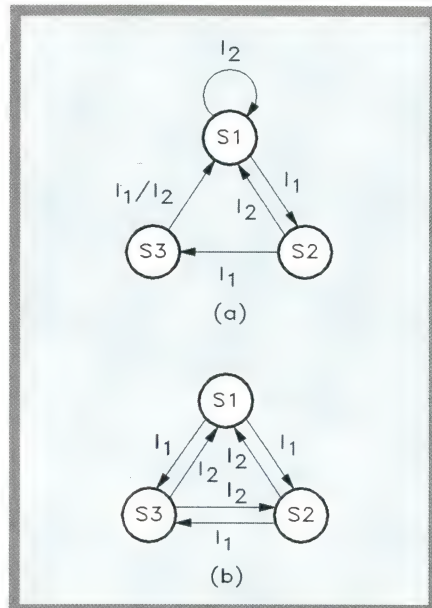

Figure 1. State diagrams for (a), a divide-by-three up counter with reset and (b), a divide-by-three up/down counter.
It is necessary at the outset to state fully the requirements for the design, so that it is clear just what it is that we are trying to achieve. Pictures speak louder than words, so they say, therefore there is some value in using diagrams as well as the written word in a specification. The type of diagram that helps us in this context is known as a 'state diagram', two simple examples being shown in Figure 1.
Figure 1 (a) shows the state diagram for a 'divide-by-three up counter with reset' while the diagram of Figure 1 (b) shows a 'divide-by-three up/down counter'. It will be noticed that this type of diagram consists of a number of circles joined by 'arrowed flow lines'. Each of the circles represents a state of the counter, a symbol for that state appearing inside the circle. Thus, in both of the cases shown, the
Taking the Figure 1 (a) first, it should be noted that a flow line marked with the symbol I_1 runs from S1 to S2, then to S3 and, finally back to S1. This symbol I_1 means 'input condition number one' and, in this example, corresponds to the normal up-counting direction of the counter. In other words, it shows that when input condition one is selected, the counter starts at state S1 (00), then goes to S2 (01), then to S3 (10), before returning to initial state S1 in order to repeat the same sequence.
If the above has been understood, there should now be no difficulty in deciphering the state diagram of Figure 1 (b). This simply has two sets of flow lines, one clockwise set marked I_1 for UP counting, the other set, going anti-clockwise, marked I_2 , for DOWN counting.
In the early stages of the counter design, it is necessary to list the states that will exist in the counter sequence. These can then be given the appropriate symbols and will also allow us to determine the number of flip-flops required. These are usually listed in a state allocation table. In this allocation table we must also assign reference letters to each of the flip-flop Q outputs. Following this we must describe the input conditions. Thus, the first stage of the design of the 'divide-by-three resettable counter' (as described by the state diagram of Figure 1 (a)) might appear as follows: